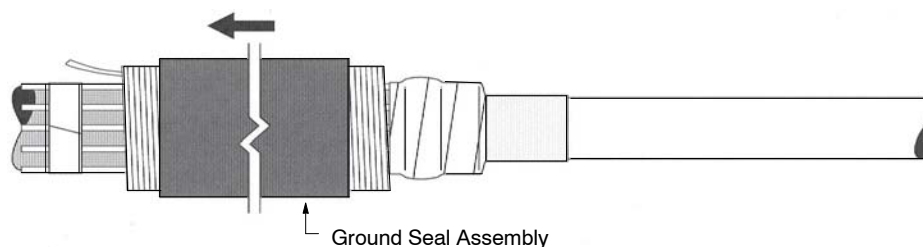

Figure 5
- 7. Slide the ground seal assembly onto the cable jacket, loose core end first. (Figure 5)